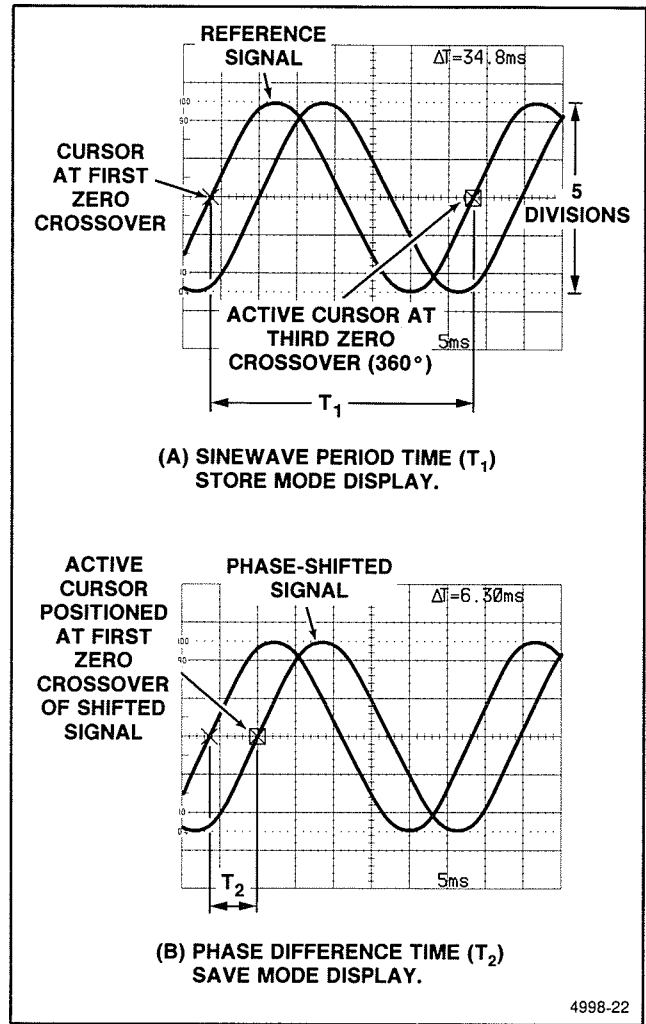

Figure 6-9. Phase difference between sinusoidal signals.
**EXAMPLE:** The period ( $T_1$ ) of the reference signal shown in Figure 6-9 is 34.8 ms, and the phase-difference time ( $T_2$ ) is 6.3 ms.